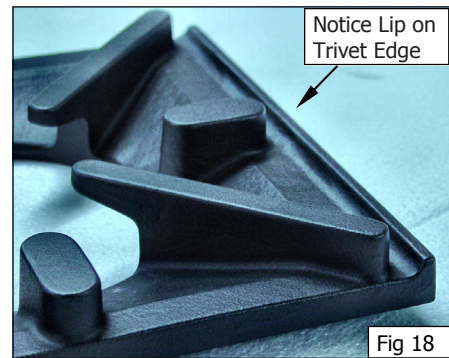

Fig 18
2. Remove the trivets from the top of the appliance, taking note that the trivets are manufactured with a lip on one edge, the lip must always be fitted to the outer edge (front and back) of the range. (See Fig 18).
13. Refit the trivets to the top of the appliance taking note that the trivets are manufactured with a lip on one edge, the lip must always be fitted to the outer edge (front and back) of the cook top. (See Fig 18).
2. Remove the trivets from the top of the appliance, taking note that the trivets are manufactured with a lip on one edge, the lip must always be fitted to the outer edge (front and back) of the cook top. (Refer to Fig 18).
- Refit the trivets to the top of the appliance taking note that the trivets are manufactured with a lip on one edge, the lip must always be fitted to the outer edge (front and back) of the cook top. (Refer to Fig 18).